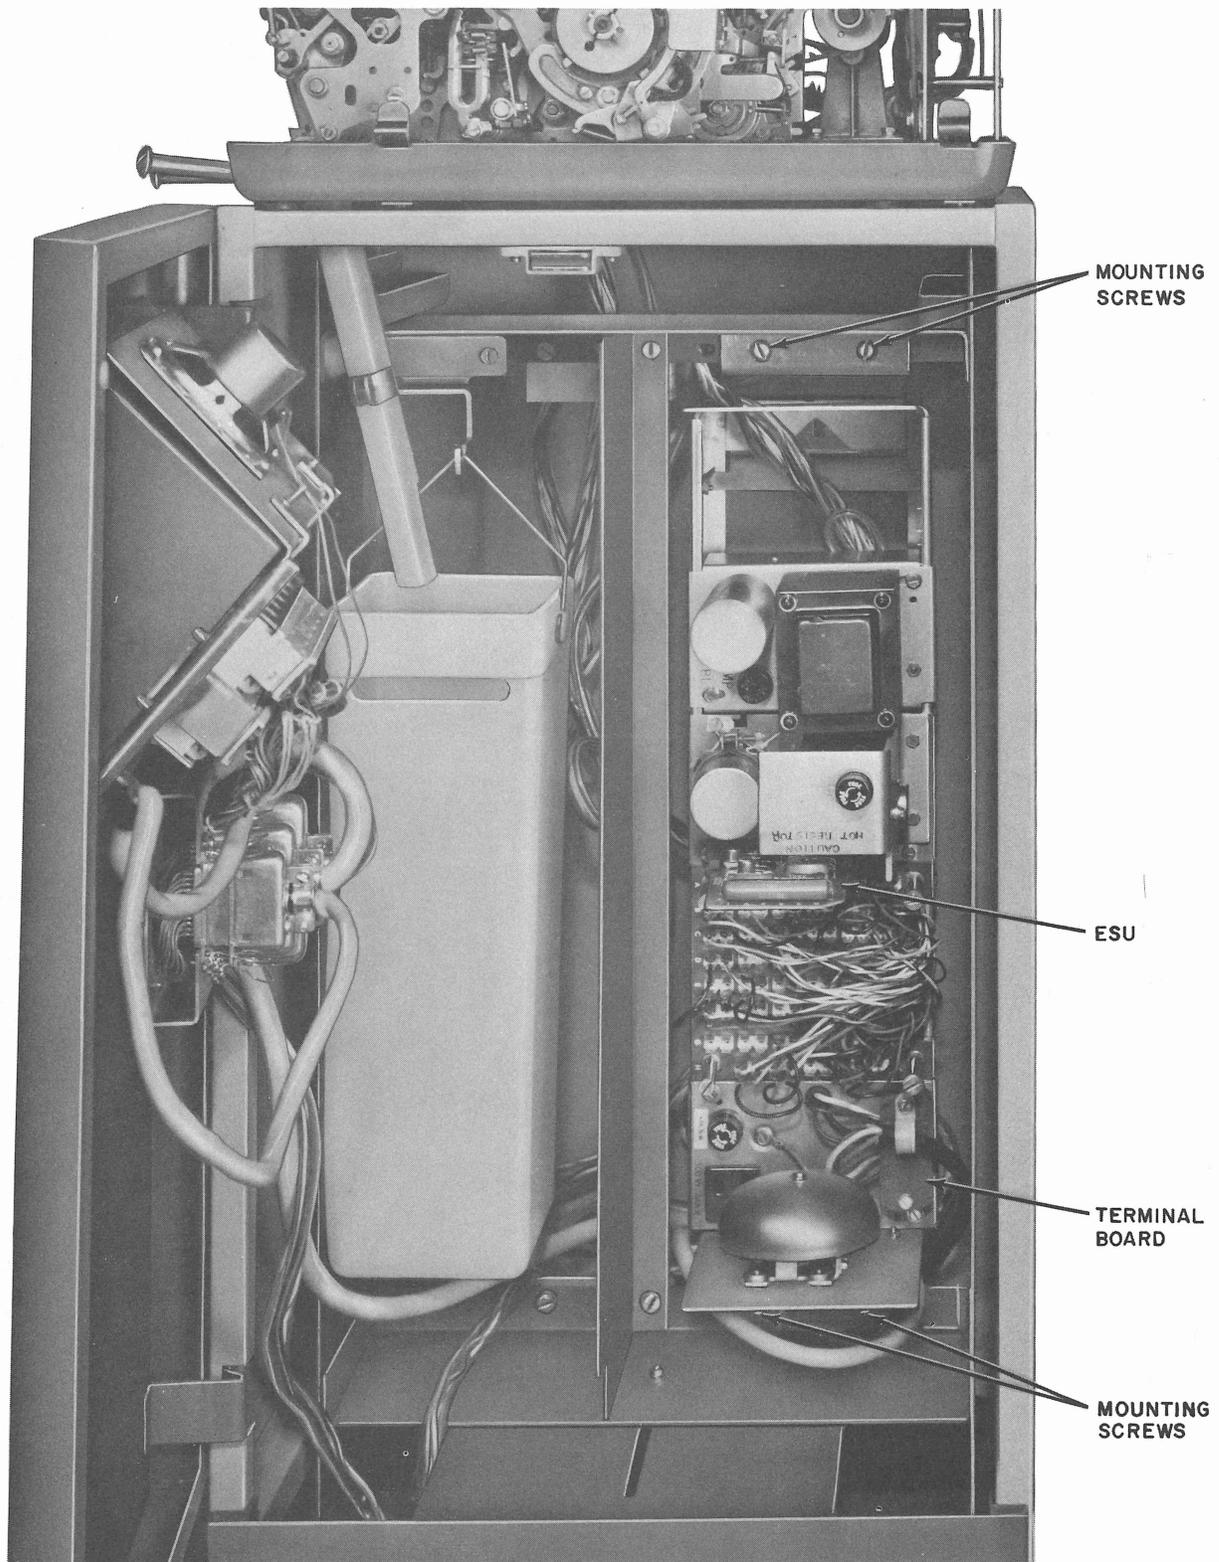

Fig. 18—35 ROTR TTY Data Station—ESU Removal
(2) Disconnect the ESU wiring from the terminal board (Fig. 18).